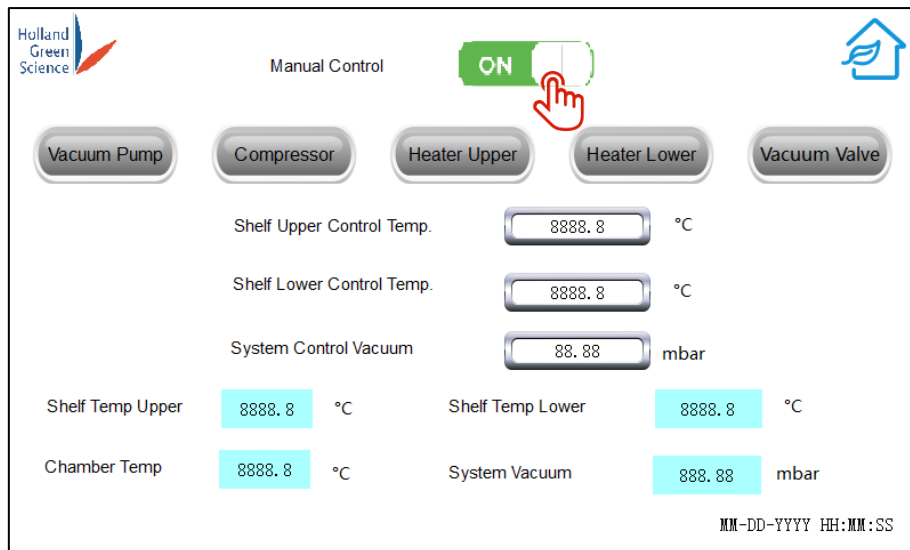

Figure 12
- Manual Control On/Off: click “On” to enter Manual Control Mode (Figure 12).